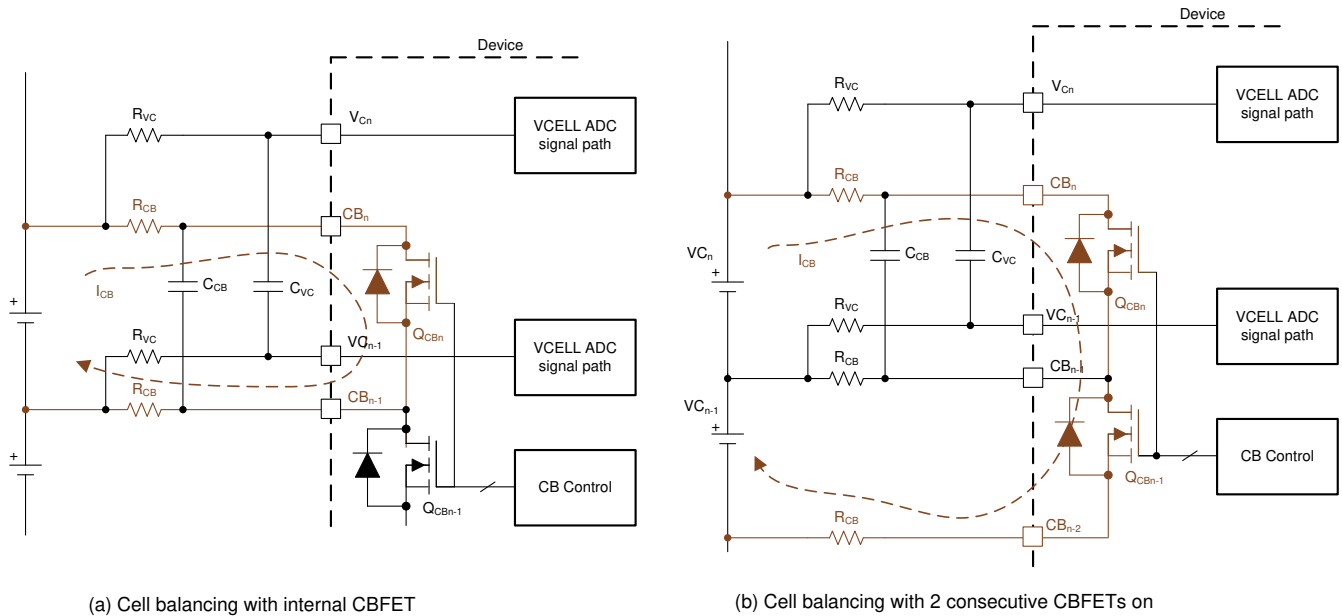

Figure 9-14. Internal Cell Balancing and the Flow of Balancing Current
- Balancing with no consecutive CBFET on (Figure 9-14 (a)): $I_{CB} = V_{Cell} / ((2 \times R_{CB}) + R_{dson_{QCB}})$
- Balancing with two consecutive CBFETs on (Figure 9-14 (b)): $I_{CB} = (\text{Sum of two } V_{CELL}) / ((2 \times R_{CB}) + R_{dson_{QCBn}} + R_{dson_{(QCBn-1)}})$
- Manual balancing control (*[AUTO_BAL] = 0*): With this method, the device will turn on the CBFETs that have non-zero balancing timer settings once *[BAL_GO] = 1* is received. There is no odd and even channel switching during the cell balancing and the *BAL_CTRL1[DUTY2:0]* setting does not apply under this control. Host MCU can enable two consecutive CBFETs with this method and a maximum of eight CBFETs can be enabled. When two consecutive CBFETs are enabled with both channels connected to battery cells, the balancing current is significantly different compared to no adjacent CBFET being on (Figure 9-14). The *DEV_CONF[NO_ADJ_CB]* bit is provided to avoid inadvertent enabling of an adjacent CBFET for a system that is not intended to have an adjacent channel on for balancing. In this control method, the device is relying on the MCU to enable the proper channels. If the MCU sends *[BAL_GO] = 1* but the CBFETs are enabled with an invalid condition, the device will not start balancing and will set *BAL_STAT[INVALID_CBCONF] = 1*. Invalid configurations are either: